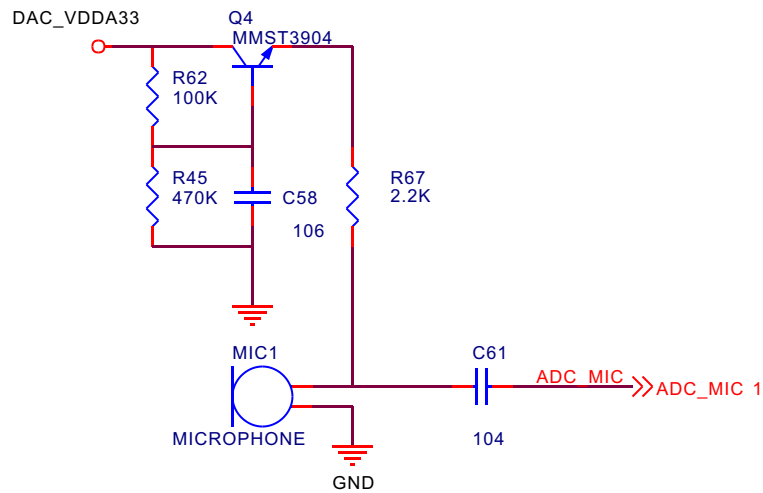

Figure 3.2.10.1 MIC circuit schematic diagram
1. MIC circuit is shown in the figure 3.2.10.1: